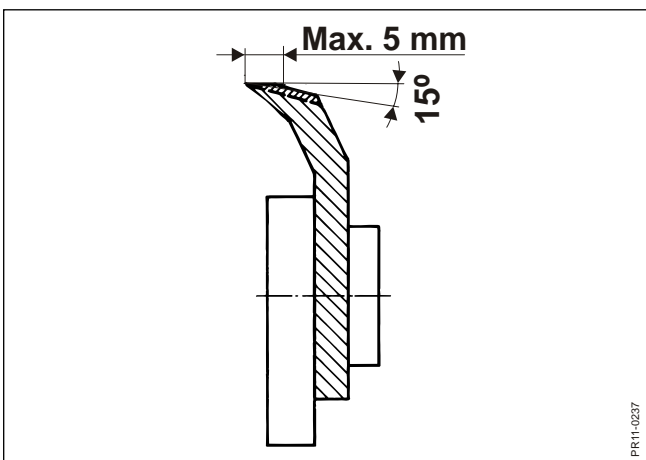

Fig. 4-17
**Fig. 4-17** To avoid unnecessary power consumption and excessive wear of the grindstone when working with the harvester, it is necessary to make a rough grinding or adjustment of the blades when the cutting edge is 5 mm wide or more. Grind the rear edge to an angle of approx. 15°.